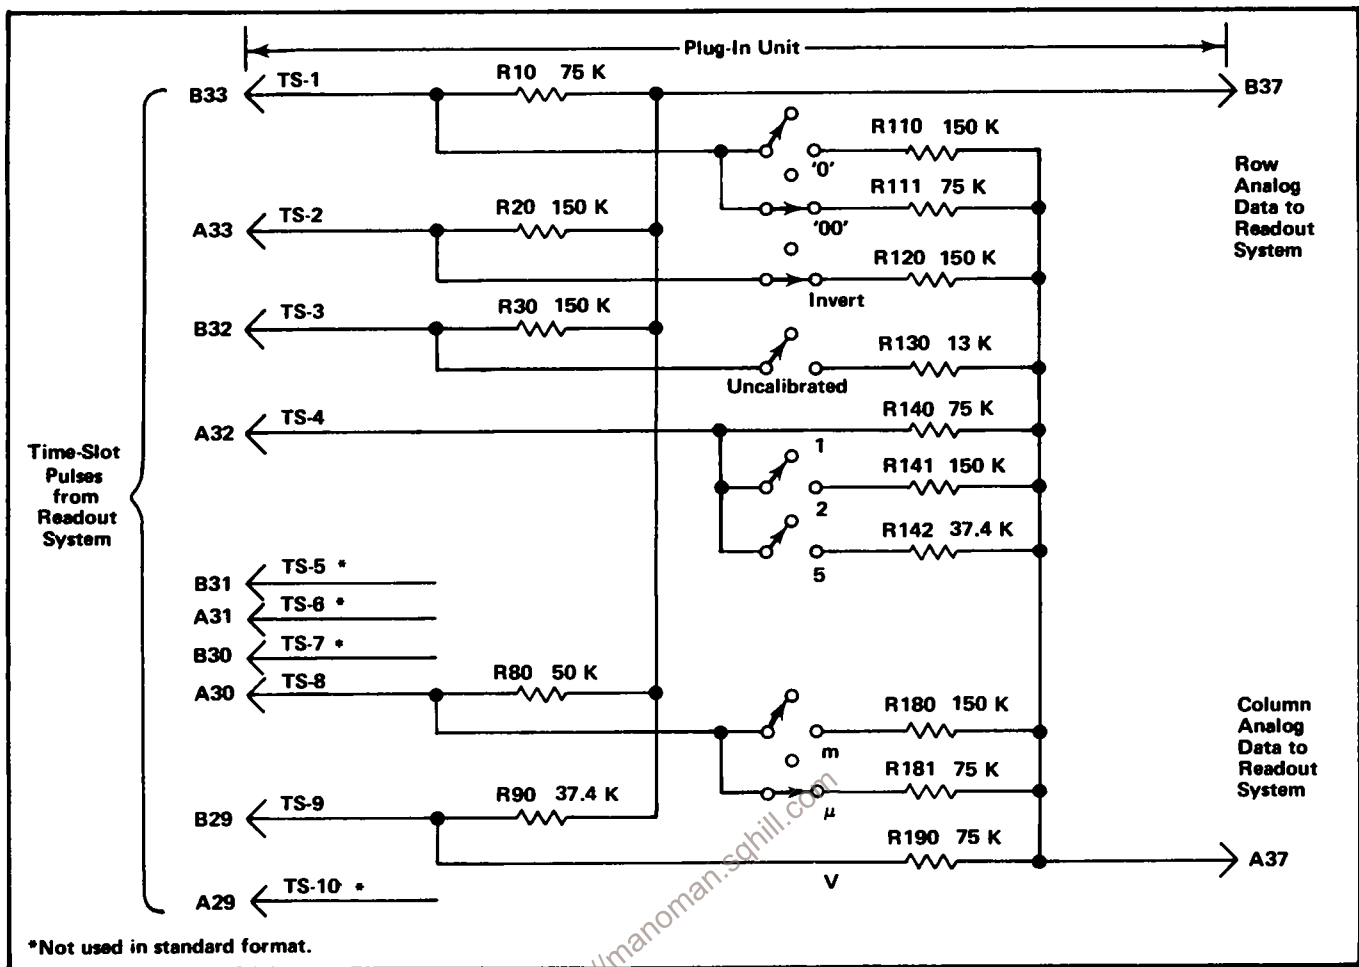
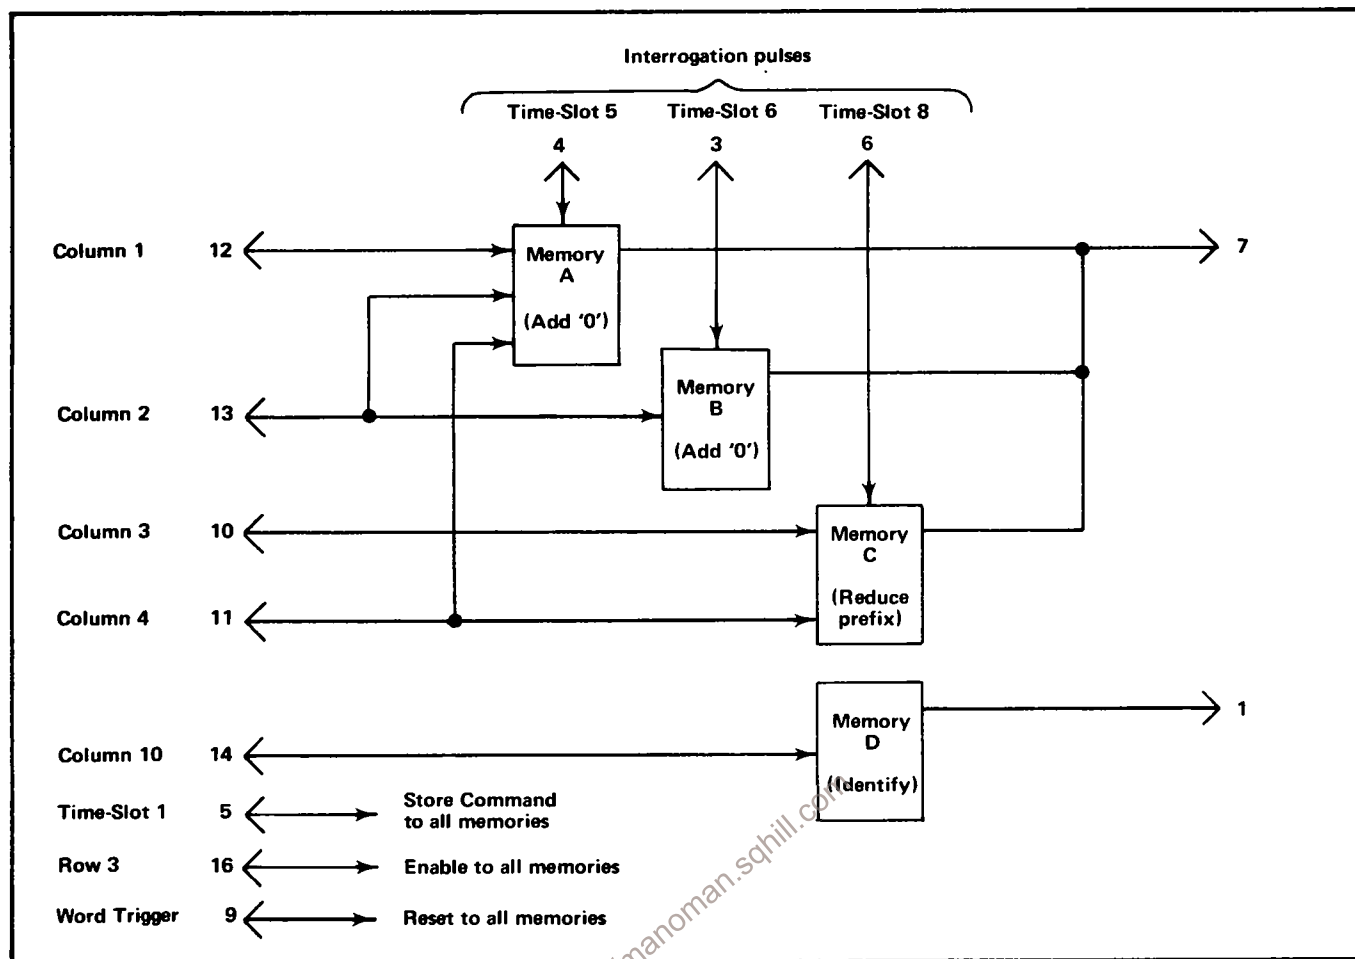
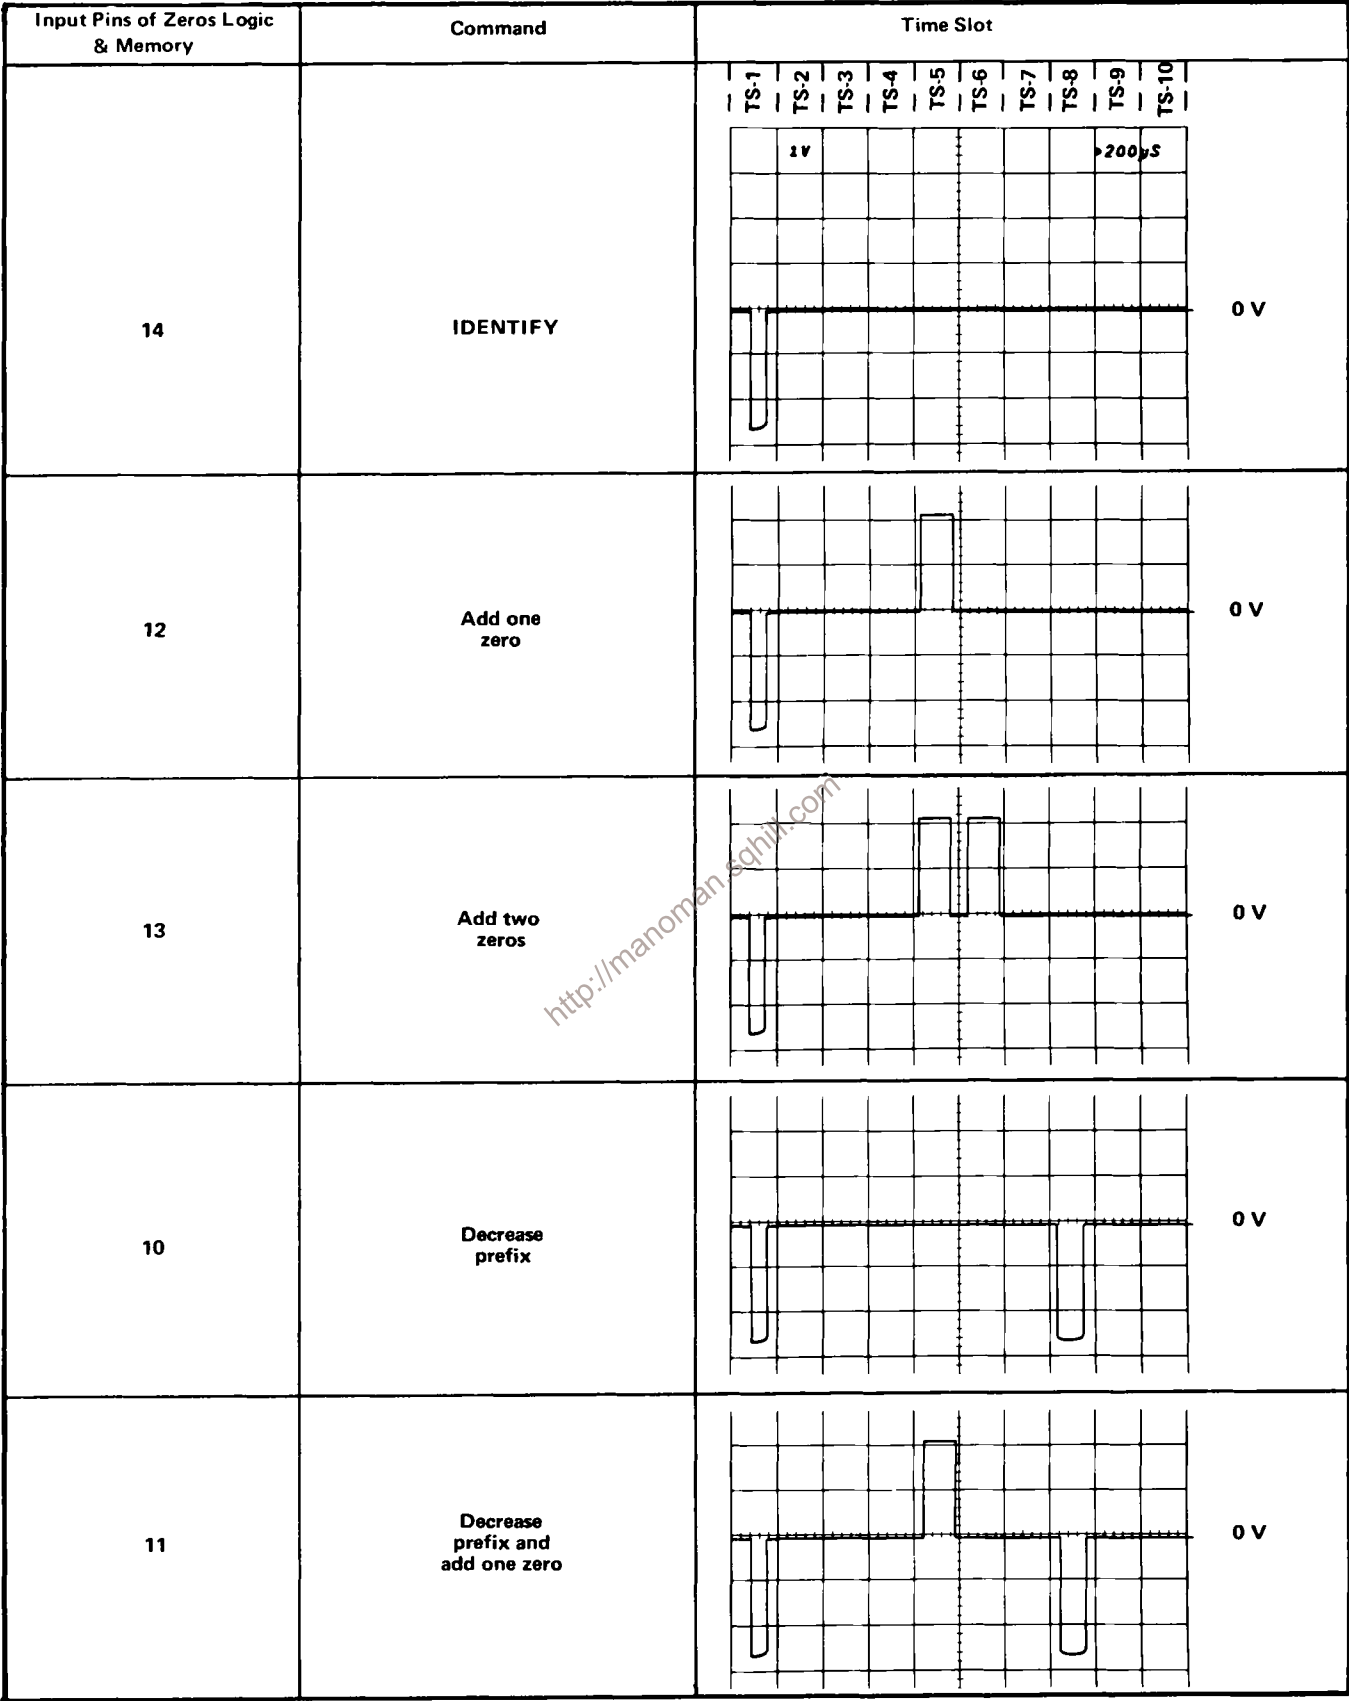

Fig. 4-32. Typical encoding scheme for voltage-sensing amplifier plug-in unit. Coding shown for deflection factor of 100 microvolts.
Fig. 4-34. Block representation of memory sequence in U2232.
Fig. 4-35. Typical output waveforms for Zeros Logic and Memory stage operation (at pin 7 of U2232).
Data is conveyed from the plug-in units to the Readout System in the form of an analog code having up to 11 current levels (from zero to one milliamper in 100 microampere steps). The characters which can be selected by the encoded data are shown on the Character Selection Matrix (see Fig. 4-25). Each character requires two currents to define it; these currents are identified as the column current and the row current which correspond to the column and row of the matrix. The column and row data is encoded by resistive programming in the plug-in units. Fig. 4-32 shows a typical encoding scheme for a voltage-sensing amplifier plug-in unit. Notice that the 10 time-slot (TS) pulses produced by the Time-Slot Counter stage are connected to the plug-in unit. However, time-slots 5, 6, 7, and 10 are not used by the plug-in unit to encode data when using the Standard Readout Format (see Table 4-2 for Standard Readout Format). The amplitude of the time-slot pulses is exactly -15 volts as determined by the Timer stage. Therefore, the resultant output current from the plug-in units can be accurately controlled by the programming resistors in the plug-in units.
For example, in Fig. 4-32, resistors R10 through R90 control the row analog data which is connected back to the Readout System. These resistors are of fixed value and define the format in which the information will be presented by the Readout System. Fig. 4-33A shows an idealized output current waveform of row analog data which results from the 10 time-slot pulses. Each of the steps of current shown in these waveforms corresponds to 100 microamperes of current. The row numbers on the left-hand side of the waveform correspond to the rows in the Character Selection Matrix shown in Fig. 4-35. The row analog data is connected back to the Readout System via terminal B37 of the plug-in interface.
The Column analog data is defined by resistors R110 through R190. The program resistors are connected to the time-slot lines by switch closures to encode the desired data. The data as encoded by the circuit shown in Fig. 4-32 indicates a 100 microvolt sensitivity with the display inverted and calibrated vertical deflection factors. This results in the idealized output current waveforms shown in Fig. 4-33B at the column analog data output, terminal A37 of the plug-in interface. Resistor R111, connected between time-slot 1 and the column analog data output, encodes two units of current during time-slot 1. Referring to the
connectors of vertical plug-in units. A special coding ring around the input connector of the plug-in unit senses the attenuation ratio of the probe (with readout-coded probes only). The probe contains a resistor which results in additional column current. For example, if a 10X attenuator probe is connected to a plug-in with the coding for 100 microvolts as shown in Fig. 4-32, an additional unit of current is added to the column analog data during time-slot 1. Since two units of current were encoded by R111 (see Fig. 4-32), this additional current results in a total of three units of column analog current during this time-slot. Referring to the Character Selection Matrix, three units of column current along with the two units of row current encoded by R10 indicates that the prefix should be reduced. Since this instruction occurs in the same time-slot which previously indicated that two zeros should be added to the display and only one instruction can be encoded during a time-slot, the zeros do not appear in the display. The CRT readout will now be changed to 1 mV (readout) program produced by plug-in same as for previous example.
The Zeros Logic and Memory stage U2232 stores data encoded by the plug-in units to provide zeros-adding and prefix-shifting logic for the Readout System. The Strobe pulse at pin 15 goes positive when the data has stabilized and can be inspected. This activates the Zeros Logic and Memory stage so it can store the encoded data. A block representation of the memory sequence is shown in Fig. 4-34. Typical output waveforms for the five possible input conditions that can occur are shown in Fig. 4-35. When time-slot 1 occurs, a store command is given to all of the